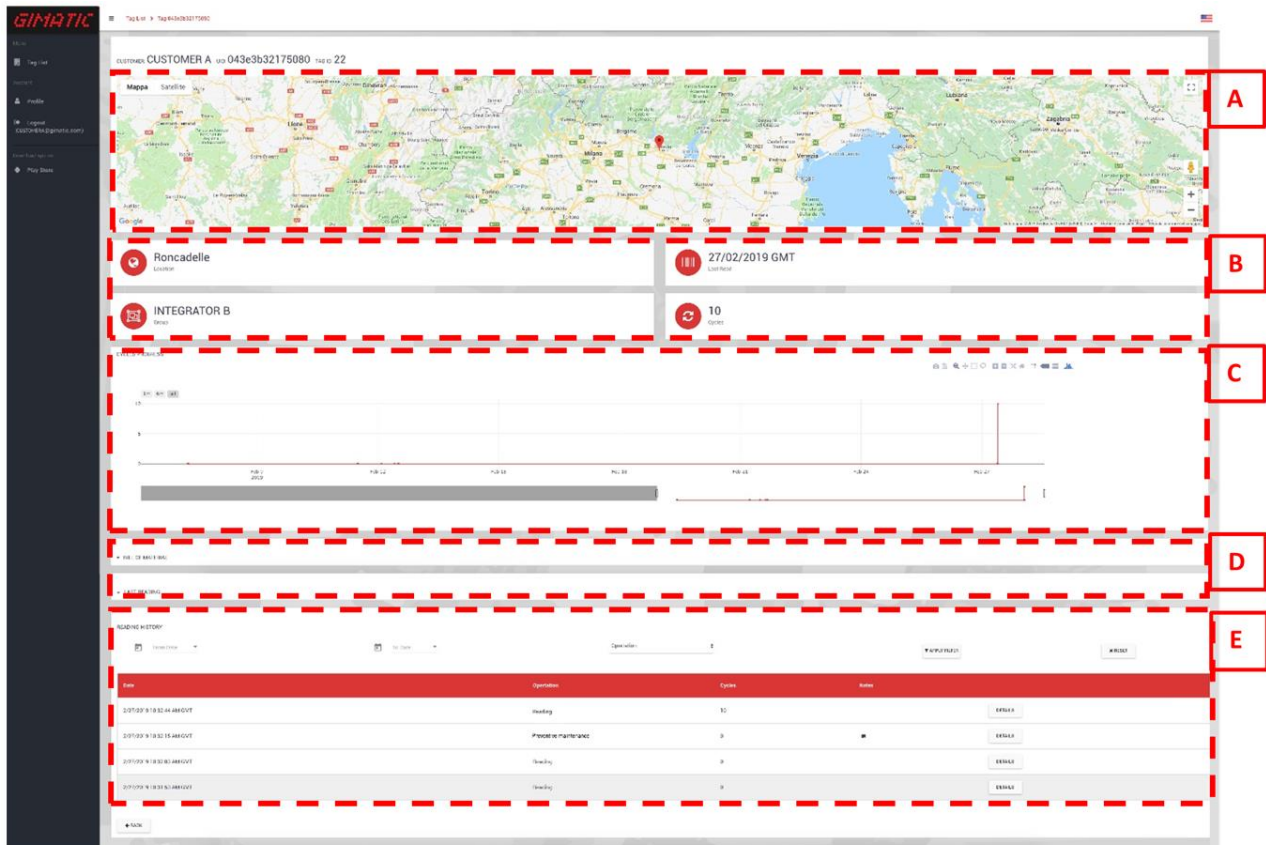

Figure 42 – TAG details
- **DETAILS:** clicking on it, it will appear another window as can be seen in *Figure 42*.
Opening the page concerning TAG details, all the information about a specific TAG is available, like geolocation, fast information, chart with cycles progress, bill of material and all the readings done (*Figure 42*).